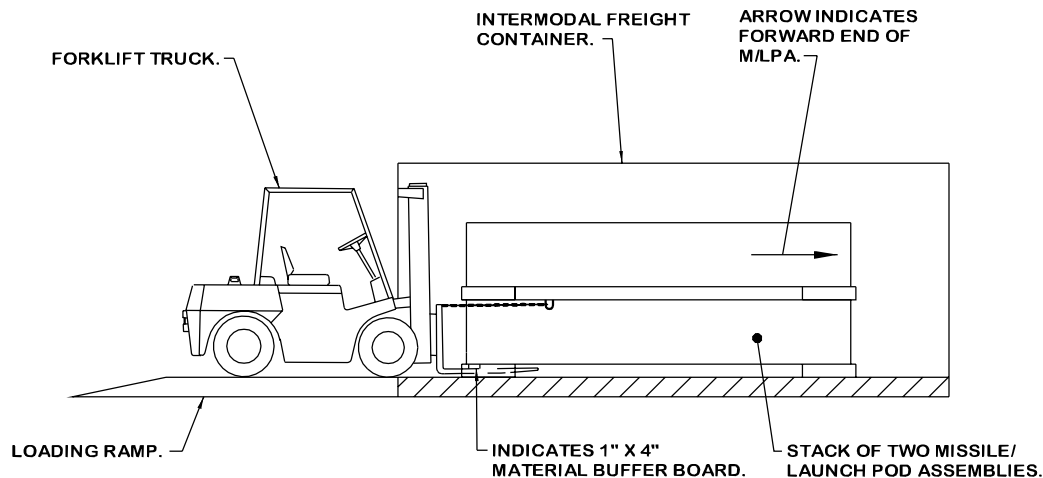

FIGURE 1
2. ATTACH CHAIN FROM D-RINGS ON BOTTOM M/LPA TO THE FORKLIFT TRUCK AS SHOWN IN FIGURE 1 ABOVE (SEE NOTE 2.D ON PAGE 3).